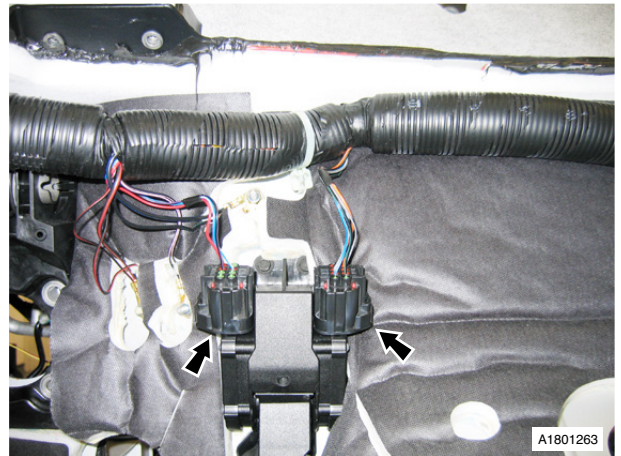

Fig. 1
29. Disconnect throttle pedal multiplugs (x2) (see Fig. 1).